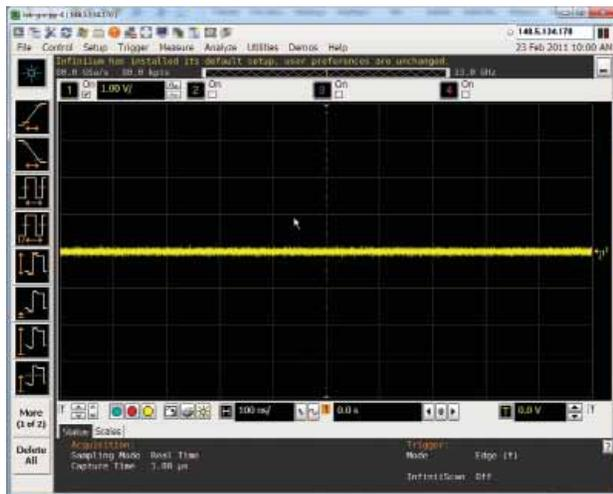

Figure 1. An oscilloscope screen that is not measuring any input
1. Disconnect all inputs from the oscilloscope channels, such that the measurement screen resembles that shown in Figure 1.